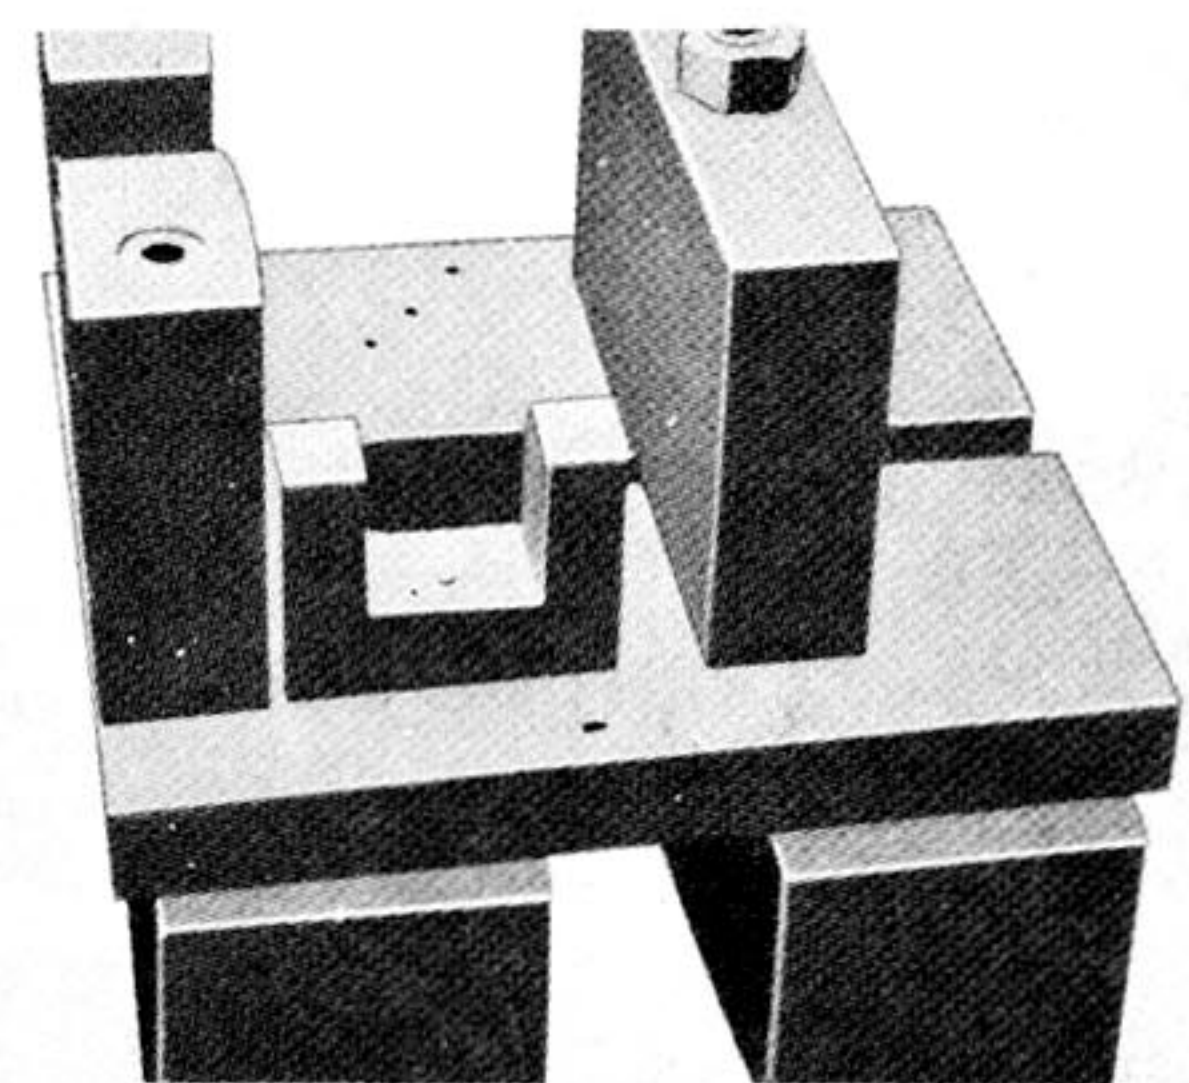

Fig. 4-17-12
(1) Install Tool No. 6 (used to space the crankshaft. ass'y) on Tool No. 1. (Fig. 4-17-12)